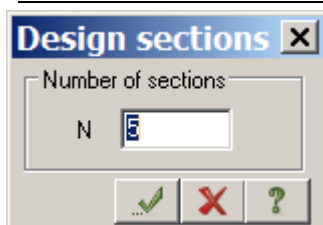

Figure 3.26 Design sections dialog box
- ⇒ In the **Design sections** dialog box (see Fig.3.26), specify number of sections N = 5.